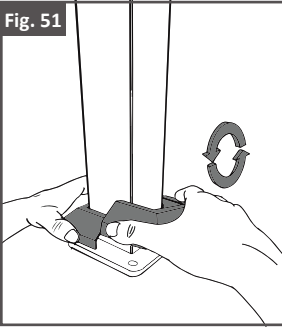

Fig. 52
4. Make sure one of the locking pins on the 2nd cover engage with the proper slot on the 1st cover piece. As shown in Fig. 52.